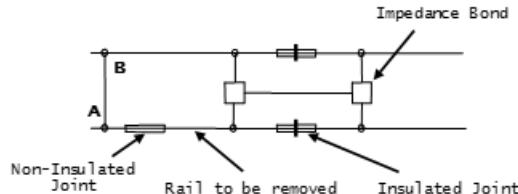

Figure 4 - BONDING
**1.605** Method of applying temporary rail jumpers in electrified territory when rail, to which impedance bond is connected, is to be removed from track. (See Figure 4)